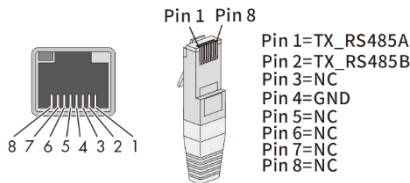

Fig. 19: Cable pin assignment
- 3 Configure the communication line as shown in Figure 19 (according to DIN 46228-4, provided by the customer).